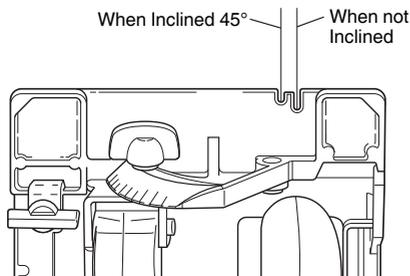

Fig. 6
- Place the saw body (base) on the work piece, and as in Fig. 6 align the intended line of cut with the saw blade, using the notch at the front of the base. This relationship of base to work pieces should remain unchanged regardless of the inclination of the base.